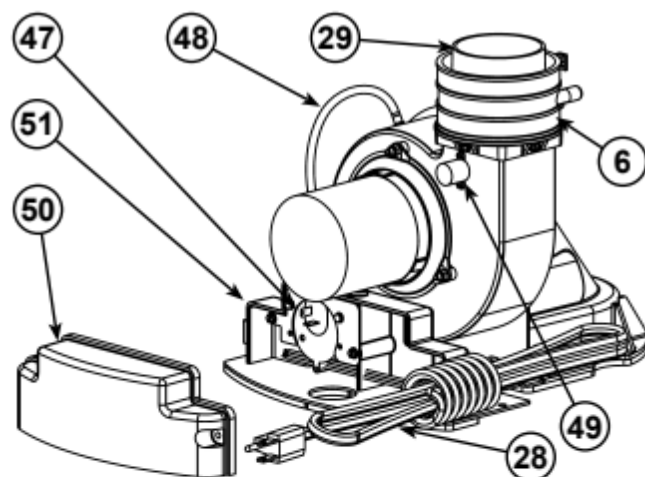

Figure 60.
- 6 Gear Clamp (see Figure 6) (see also Figure 60)
- 29 *Rubber Coupling (see Figure 6) (see also Figure 60)
- 47 Air Switch (inside box) (see Figure 6) (see also Figure 60)
- 48 Air Tubing (see Figure 6) (see also Figure 60)
- 49 Blower High Limit Switch (see Figure 6) (see also Figure 60)
- 50 Junction Box Cover (see Figure 6) (see also Figure 60)